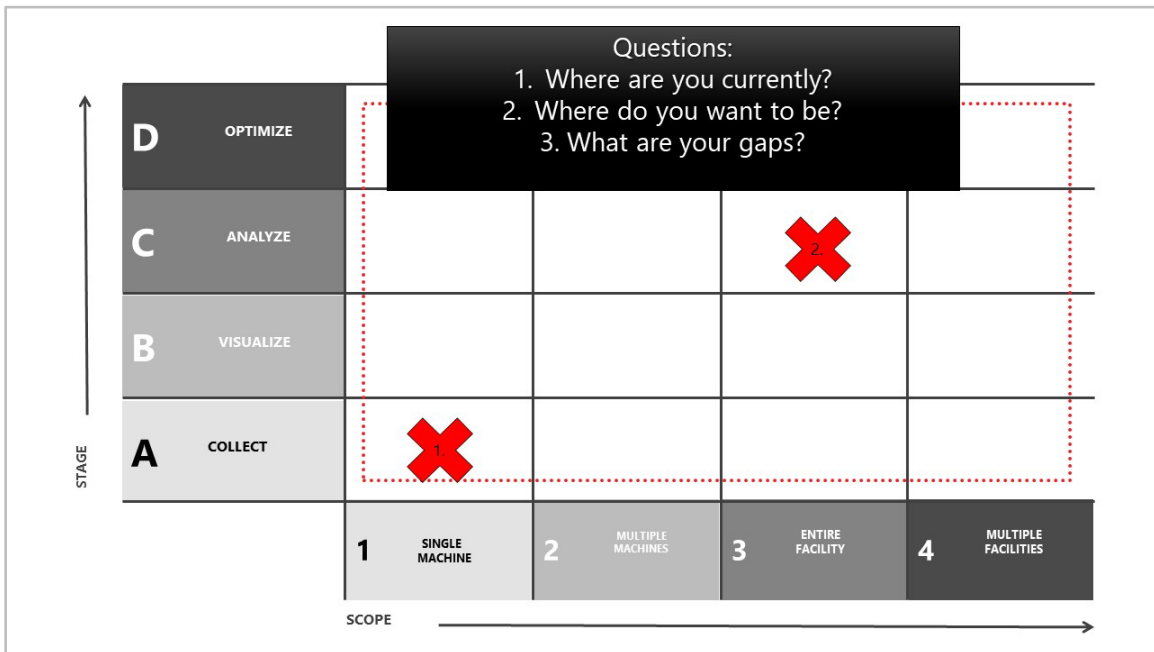

Figure 5. Question 2: Where do you want to be in your digital transformation?
- 2. Where do you want to be in your digital transformation?** The customer might say, “We don’t just want to collect data from one machine, but for our entire facility. And besides collecting data, we want to visualize that data and do some analysis, so that we can react to it.” At this point, they might not be ready to fully optimize their process. Maybe they’re just looking to analyze in addition to visualizing. So, we draw another “X” where they want to be. (See Figure 5). The next step is to learn their goals and targets to understand how to fill the gaps between where they are and where they want to be.